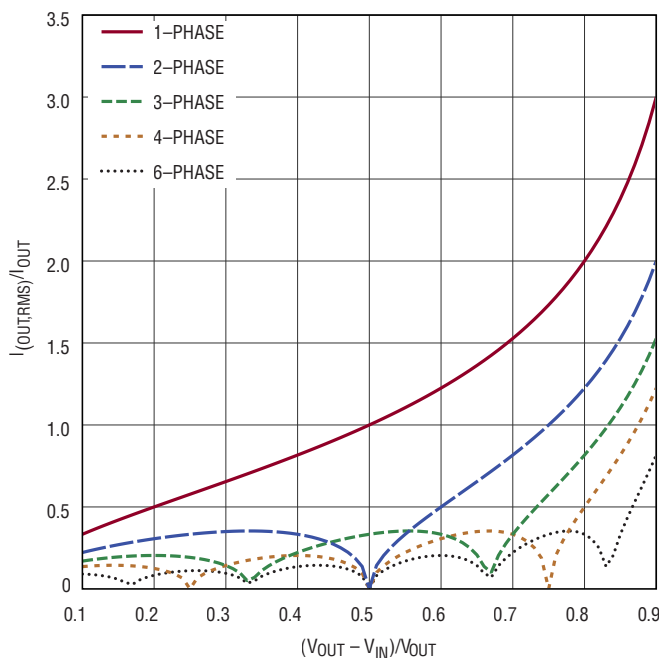

Figure 8. Normalized Output RMS Ripple Current vs  $(V_{OUT} - V_{IN})/V_{IN}$  for One to Six Phases in Boost Operation
Discontinuous  $V_{OUT}$  current is highest in the boost region due to the M4 switch toggling on and off. Make sure that the  $C_{OUT}$  capacitor network has low enough ESR and is sized to handle the maximum RMS current. Figure 8 shows the output capacitor RMS ripple current for one to six phases with the  $(V_{OUT} - V_{IN})$  to  $V_{OUT}$  ratios in boost operations. The total output RMS ripple current  $I_{(OUT,RMS)}$  is normalized against the total output current of the multiphase system ( $I_{OUT}$ ). The graph can be used in place of tedious calculations. From the graph, the minimum total output RMS ripple current can be achieved when the product of the number of phases (N) and duty cycle  $(V_{OUT} - V_{IN})/V_{OUT}$  is approximately equal to integers or:
Figure 8 also shows the maximum total normalized output RMS current for one to six phases. Choose an adequate  $C_{OUT}$  capacitor network to handle this RMS current.
Figure 7 and Figure 8 show that the peak total RMS input current in buck operation and the peak total RMS output current in boost operation are reduced linearly, inversely proportional to the number of phases used. It is important to note that the ESR-related power loss is proportional to the RMS current squared, and therefore a 3-phase implementation results in 90% less power loss when compared to a single-phase design. Battery/input protection fuse resistance (if used) PCB trace and connector resistance losses are also reduced by the reduction of the ripple